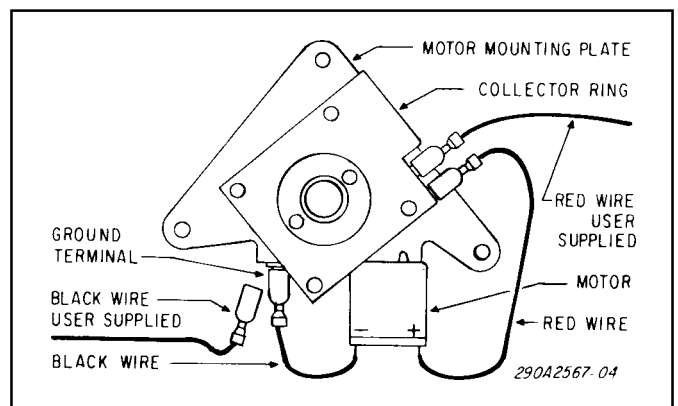

Figure 3.
3. Connect the red wire to the terminal on the collector ring (see figure 3).
4. Connect the unused terminal of the previously installed switch to one side of a user-supplied fuseholder. Connect the other side of the fuseholder to the positive (+) terminal of the vehicle's battery. Install a six (6) amp fuse in the fuseholder.